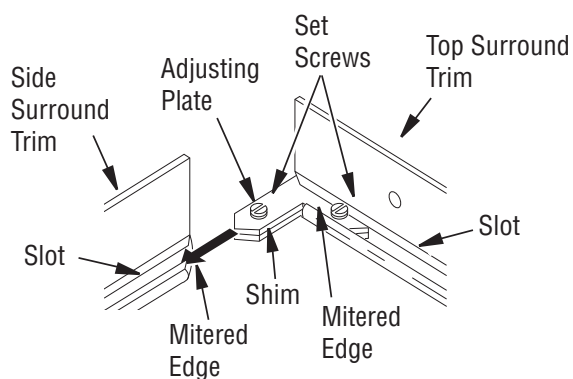

Figure 21 - Assembling Surround Trim
3. Align shim under adjusting plate as shown in *Figure 21*.
4. Slide one end of adjusting plate/shim in slot of top surround trim (see *Figure 21*).
5. Slide other end of adjusting plate/shim in slot on mitered edge of side surround trim (see *Figure 21*).